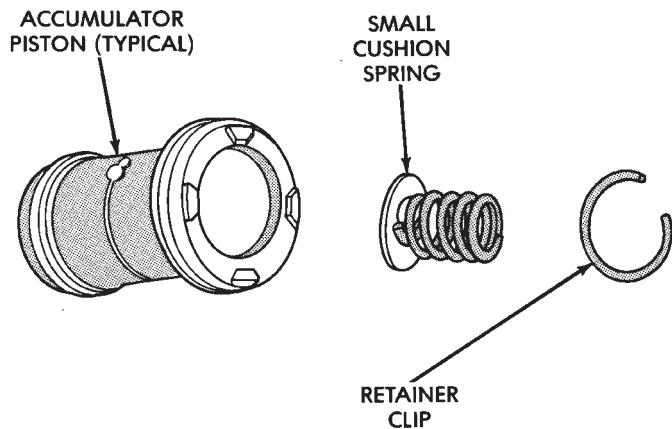

Fig. 28 Small Cushion Spring Retention
- (3) Remove and discard piston O-ring seals. Then clean pistons and springs with solvent.
(4) Inspect pistons, springs and piston bores. Replace worn damaged pistons. Replace broken, collapsed or distorted springs. Replace case if piston bores are damaged.
(5) If small cushion spring in any piston must be replaced, remove spring retainer clip and remove spring from piston (Fig. 28). A small hooked tool or small thin blade screwdriver can be used to remove clip. A thin wall, deep socket, or pin punch can be used to reseal clip after spring replacement.